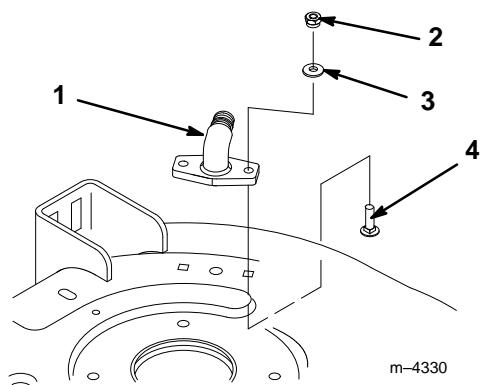
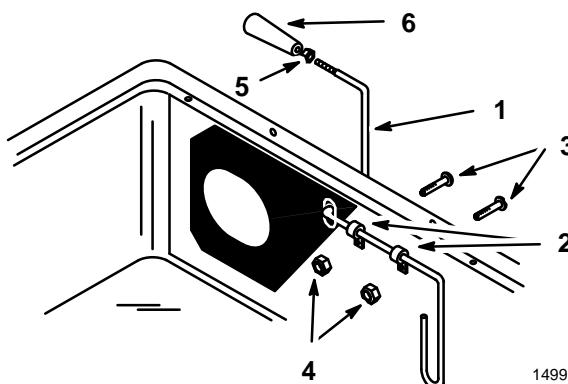

Figure 8
Figure 12
1. Remove the two bolts, flat washers and nuts holding the washout port to the deck and remove the washout port (Fig. 8). Save the washout port and the bolts, nuts and washers for reinstallation when removing the counterweight.
1. Install the “full-bag” indicator rod through the hole in the rubber seal and the slot in the bagger cover (Fig. 8). Mount the full-bag indicator rod against the bagger cover using two clips, 1/4 x 3/4” (19 mm) screws, and 1/4” locknuts (Fig. 12).
2. Screw the jam nut completely onto the indicator rod (Fig. 8). Then screw the handle (Fig. 8) close to the jam nut so you can read the decal from the operator’s position. Tighten the jam nut up against the handle to lock it in place.